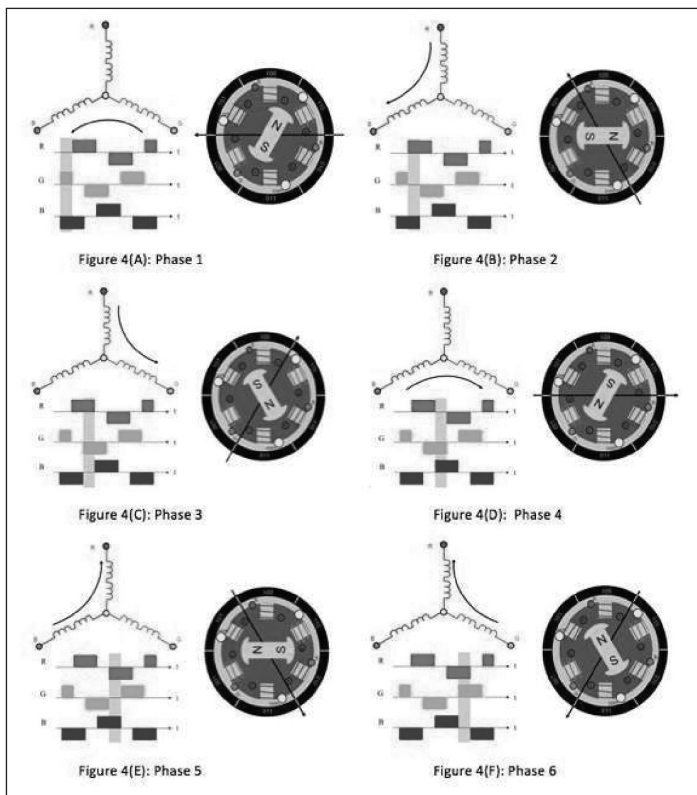

Figure 4
In a commutation system – one that is based on the position of the motor identified using feedback sensors – two of the three electrical windings are energized at a time as shown in figure 4. In figure 4 (A), the GREEN winding labeled “001” is energized as the NORTH pole and the BLUE winding labeled as “010” is energized as the SOUTH pole. Because of this excitation, the south pole of the rotor aligns with the GREEN winding and the North Pole aligns with the RED winding labeled “100”. In order to move the rotor, the “RED” and “BLUE” windings are energized in the direction shown in figure 4(B). This causes the RED winding to become the North Pole and the BLUE winding to become the South Pole. This shifting of the magnetic field in the stator produces torque because of the development of repulsion